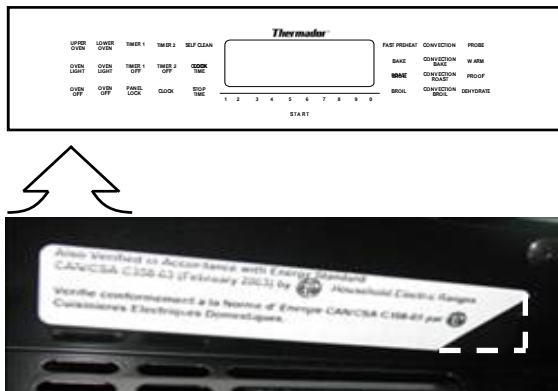

Figure 11
13. When repair of entire unit has been completed, cut and remove corner of energy data tag as shown in Figure 11 to indicate that unit has been tested and repaired.